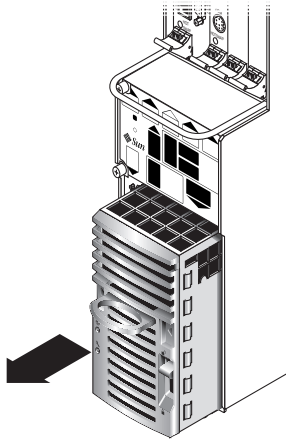

FIGURE 10-14 Removing a Power Supply Unit From a Netra CT 410 Server
5. Grasp the handle on the power supply unit (FIGURE 10-14), slide it out of the server and place it on the electrostatic discharge mat.